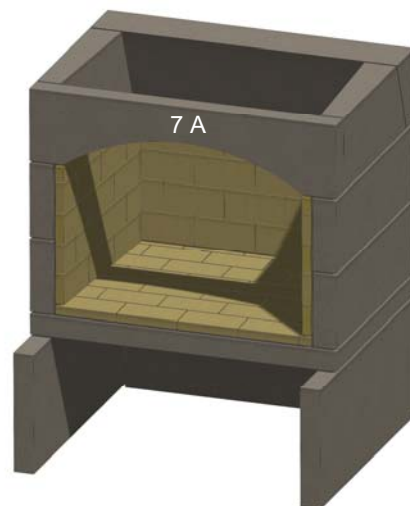

Figure 20. Front Lintel
L. Install the front lintel piece, (7A, for arched lintel, as shown) or (7S, for straight lintel kits). See Figure 20.